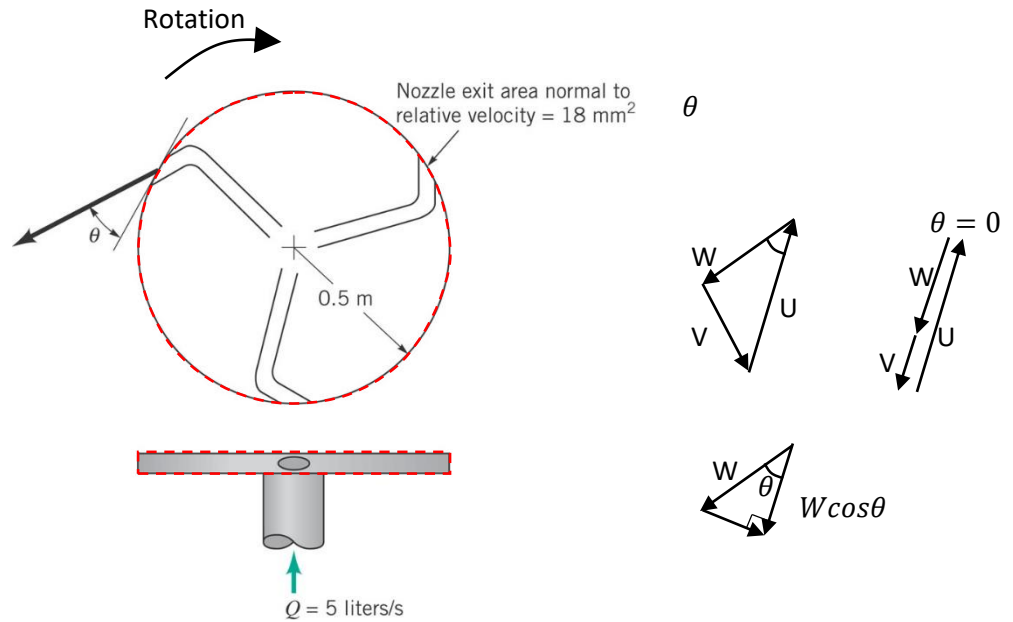

Figure 3. Problem 3.
- 3 Five liters per second of water enters the rotor shown in the Fig. 3 along the axis of rotation. The cross-sectional area of each of the three nozzle exits normal to the relative velocity is 18 mm^2 . How fast will the rotor spin steadily if the resisting torque is reduced to zero and (a) $\theta = 0^\circ$, (b) $\theta = 30^\circ$, or (c) $\theta = 60^\circ$?